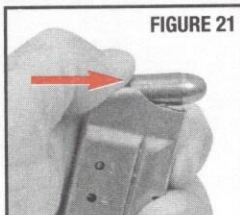

FIGURE 21
- Unload the magazine by holding it with the bullet end of the cartridge pointing away from you and pressing each cartridge forward and out of the magazine (FIGURE 21).